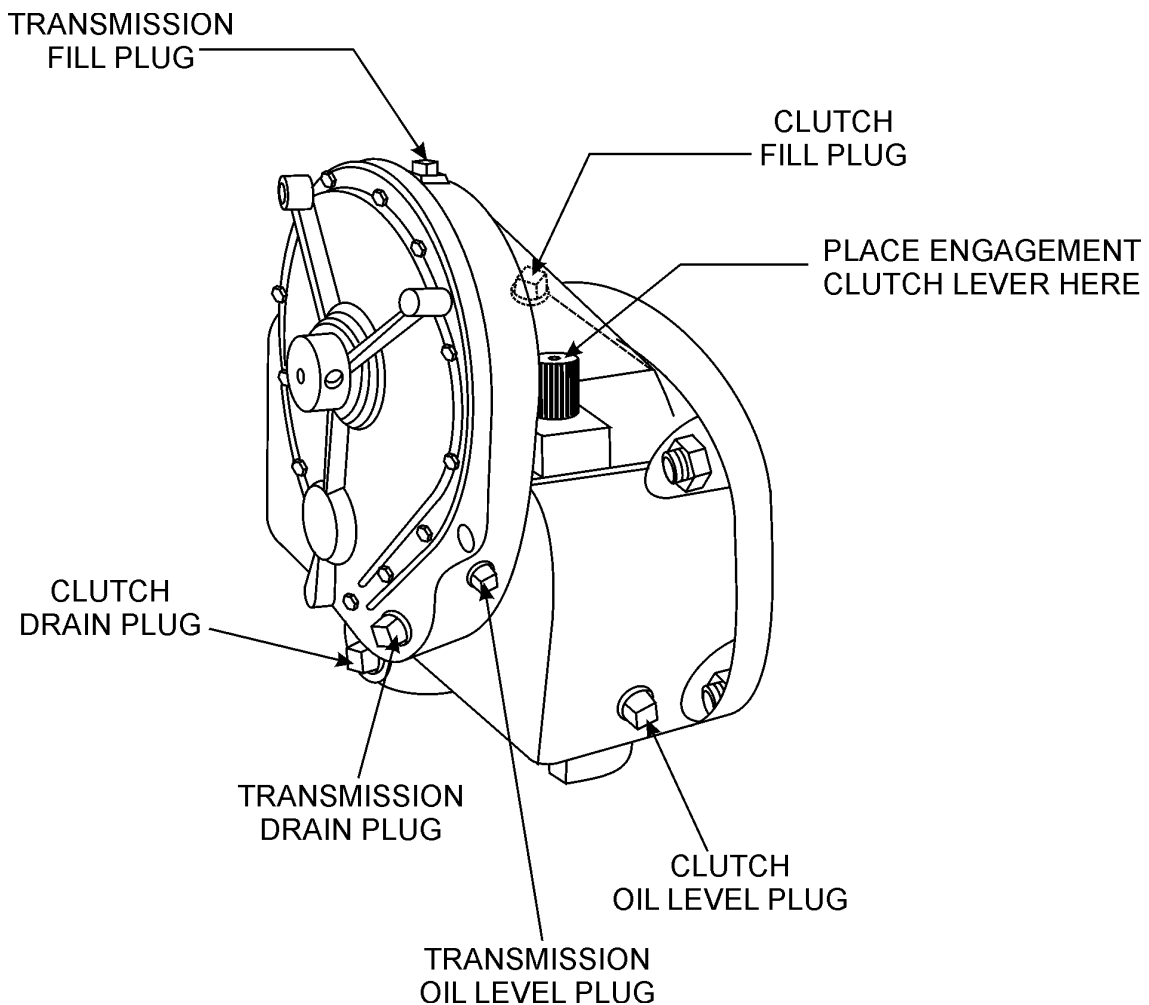

Figure 8. Transmission/Clutch Lubrication
1. Remove the clutch **oil level plug** (Figure 8). If oil begins to seep out as the plug is being removed, then it can be assumed that the clutch oil is at the proper operating level.
1. Remove the **transmission oil level plug** (Figure 8). If oil begins to seep out as the plug is being removed, then it can be assumed that the transmission oil is at the proper operating level.
2. Drain the clutch compartment oil (Figure 8) by removing the magnetic 9 mm (3/8-inch) plug located at the bottom of the Gear Reduction Assembly.